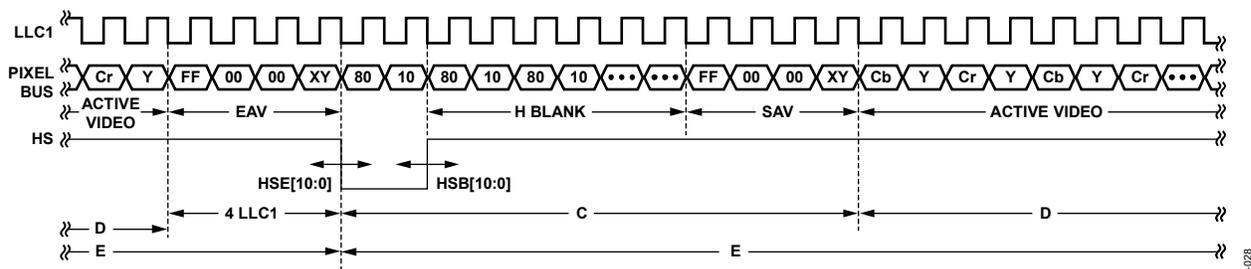

Figure 32. HS Timing
The position of this edge is controlled by placing a binary number into HSB[10:0]. The number applied offsets the edge with respect to an internal counter that is reset to 0 immediately after EAV Code FF, 00, 00, XY (see Figure 32). HSB is set to 0000000010b, which is two LLC1 clock cycles from count [0].
The position of this edge is controlled by placing a binary number into HSE[10:0]. The number applied offsets the edge with respect to an internal counter that is reset to 0 immediately after EAV Code FF, 00, 00, XY (see Figure 32). HSE is set to 0000000000b, which is 0 LLC1 clock cycles from count [0].
**Table 60. HS Timing Parameters (See Figure 32)**